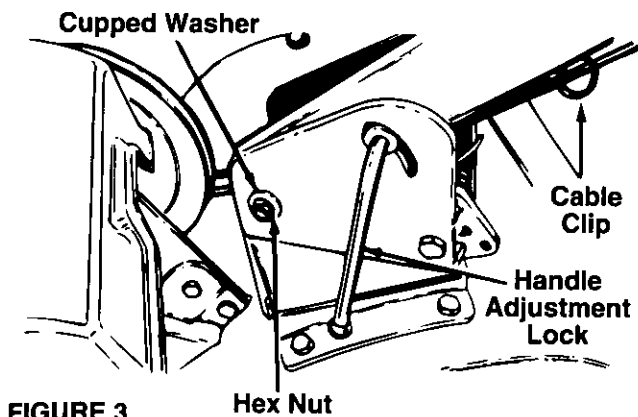
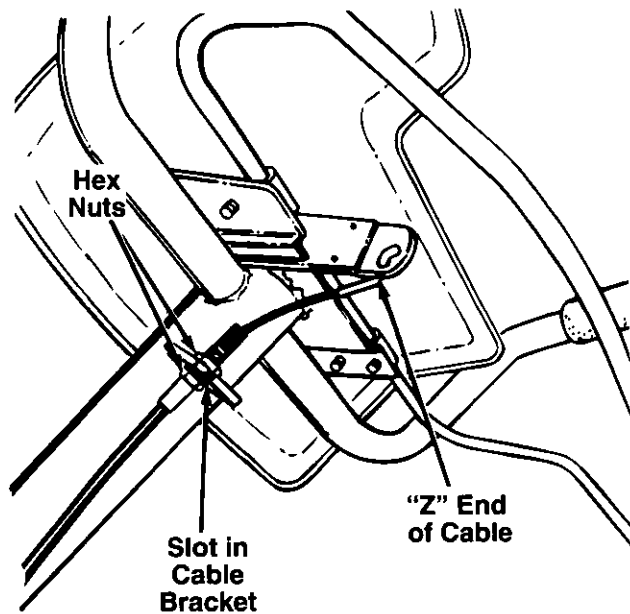

FIGURE 3.
FIGURE 5.—Viewed beneath handle panel.
6. Secure bottom of handle by placing belleville washer (cupped side against the pivot bracket) and hex nut on hex bolt. Do not tighten at this time. See figure 3.
1. Route the clutch cable through the cable clip underneath the handle. Refer to figure 3. Remove one hex nut from the threaded casing on the end of the cable. See figure 5.
3. Pull the cable upwards to obtain slack, and hook the "Z" end of the cable into the bracket on the clutch control (beneath the handle panel) as shown in figure 5 (from right to left). Thread the hex nut back onto the end of the cable casing.
**If the belt turns with the unit in neutral,** adjust by moving the hex nut below the cable bracket **down** a few turns. See figure 5. Tighten the upper hex nut against the bracket.